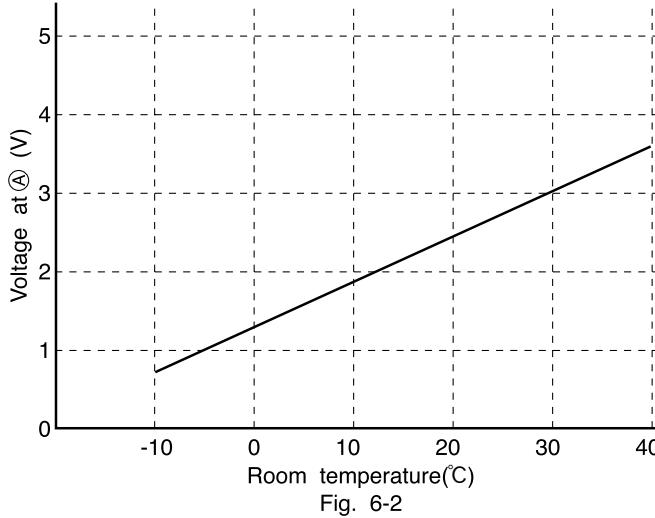

Fig. 6-2
- (1) Preheat.
- (2) Low-temperature defrosting during cooling and dehumidifying operation.
- (3) Detection of the reversing valve non-operation or heat exchanger temperature thermistor open.
The voltage at ① depends on the heat exchanger temperature as shown in Fig. 6-2